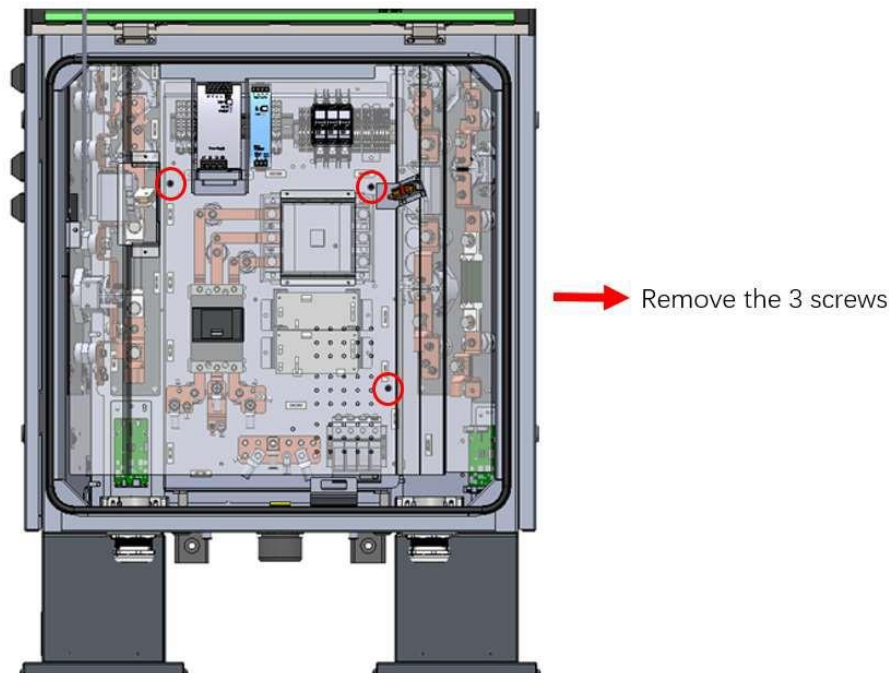

Figure 14 Removing the protective cover
(7) From the front of the charger, unscrew the screws of the transparent protective cover and remove the transparent protective cover, as shown in Figure 14.